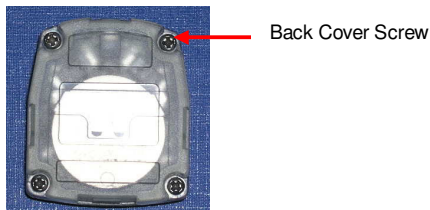

Figure 1: Tag (showing screws)
3. Unscrew the 4 screws situated at the back of the tag and remove the back cover from the (Figures 1 and 2).